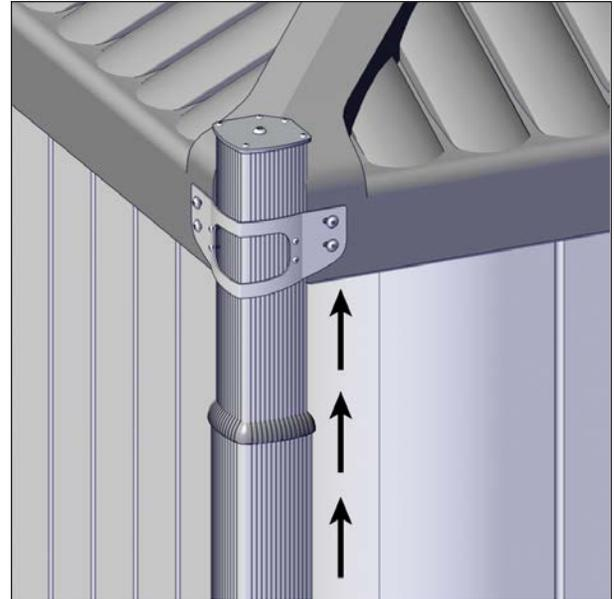

FIGURE 46: SLEEVE INSTALLATION CHECKING
7. Check the installation of the brackets by trying to lift each sleeve. Review previous steps for any broken screws or to retighten screws if the sleeve keeps moving, see Figure 46.